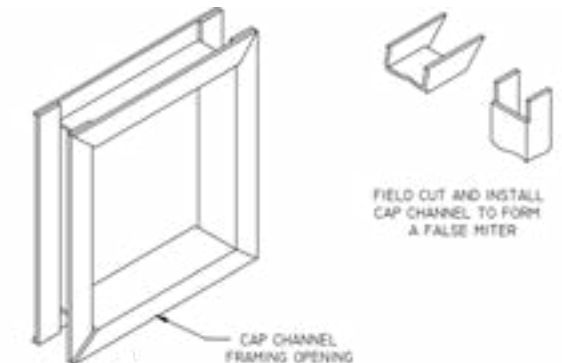

FIGURE 11
- 10) Cap channel is supplied for trimming all exposed panel edges and framing all rectangular openings in the enclosure. Field cut and install cap channel to form a false miter. (FIGURE 11) Apply butyl sealant along the panel's exterior edge and fasten the cap channel to the panels with TEK® screws at 12" on center.